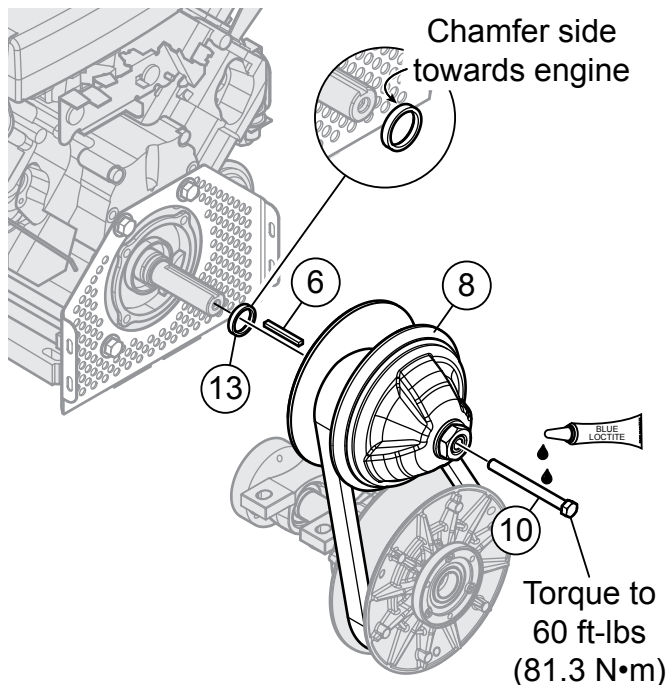

Figure 16. Install Clutch Assembly
4. Install clutch spacer (item 13) onto shaft with chamfer side facing the engine (Figure 16).
5. Insert steel key (item 6) into engine shaft (Figure 16).
6. Mount clutch assembly (item 8) onto engine shaft using clutch retaining screw (item 10). Apply Blue Loctite™ #246 to retaining screw and torque to 60 ft-lbs. (81.3 N·m). See Figure 16.